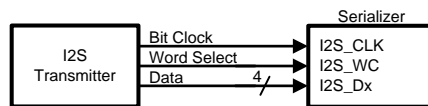
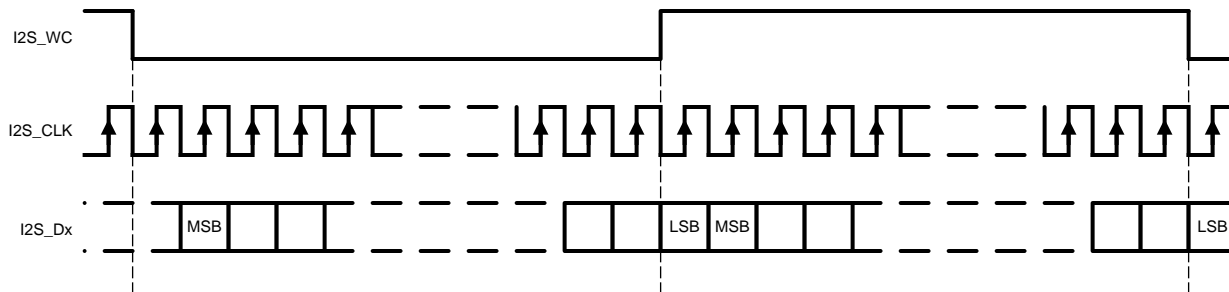

Figure 15. I²S Connection Diagram
Figure 16. I2S Frame Timing Diagram
The DS90UH949-Q1 serializer features six I²S input pins that, when paired with a compatible deserializer, supports 7.1 High-Definition (HD) Surround Sound audio applications. The bit clock (I2S_CLK) supports frequencies between 1 MHz and the lesser of IN_CLK/2 or 13 MHz. Four I²S data inputs transport two channels of I²S-formatted digital audio each, with each channel delineated by the word select (I2S_WC) input. Refer to Figure 15 and Figure 16 for I2S connection diagram and timing information.